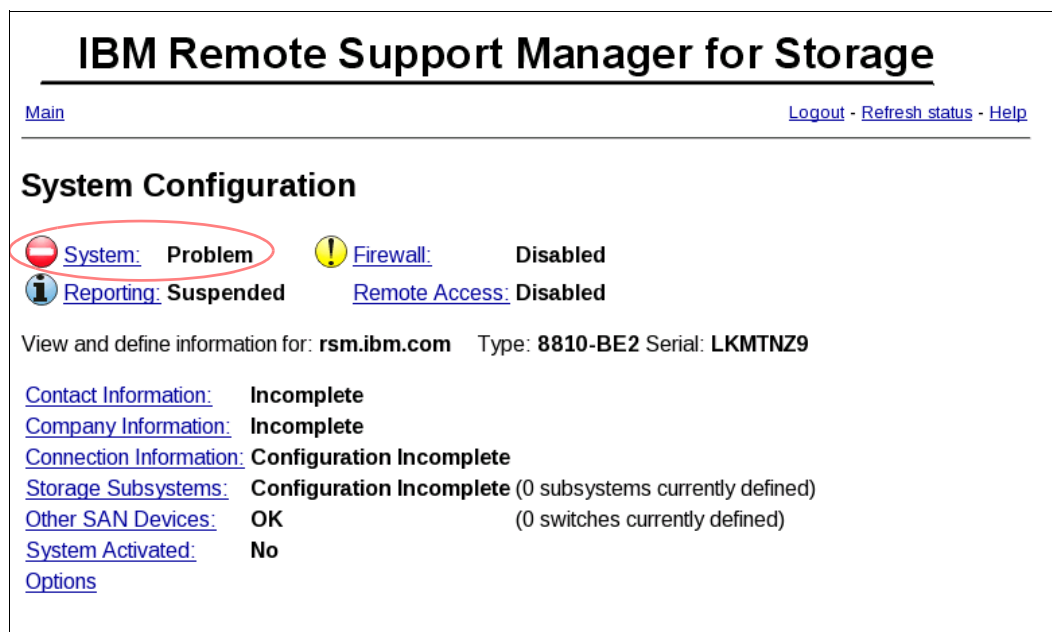

Figure 16-10 System Configuration incomplete
4. The System Configuration window shows incomplete tasks that need to be accomplished before the RSM system can be used as shown in Figure 16-10 on page 492.
- The task Contact Information in System Configuration will be marked OK. Click **Company Information** as shown in Figure 16-10 on page 492.
10. The task Company Information in System Configuration will be marked OK. Click **Connection Information** as shown in Figure 16-10 on page 492.